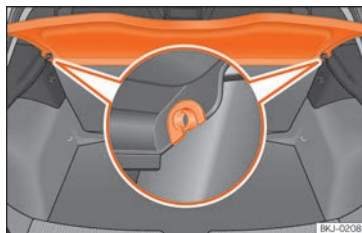

Fig. 138 In the boot: removing and installing the shelf.
- Remove the rear shelf from the side supports >>> Fig. 138 by pulling it upwards and then take it out.
- Insert the cover horizontally so that the “recess” fits onto the axis of the supports >>> Fig. 138 and press down until it engages.